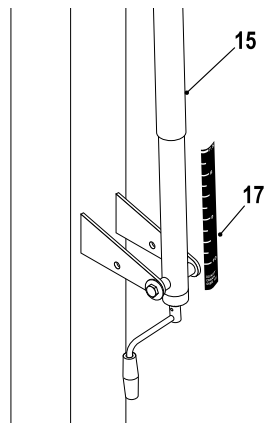

Figure 12
- Adjust unit to lowest position. Use a tape measure to measure from the top of the rim to the playing surface. Stick Height Decal (#17) to back of Actuator (#16) with the measured height mark aligned with bottom of Actuator Sleeve (#15). See Figure 12.